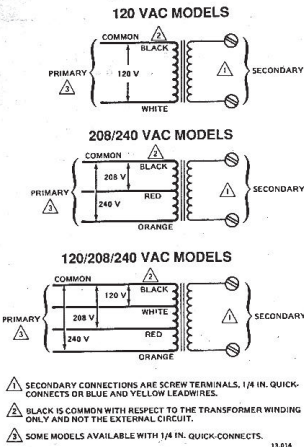

Fig. 1. Schematic for single and multitap transformers.
1. Make primary connections to line voltage power supply. On multitap model, make sure you are using correct leads or terminals for available power supply. See Fig. 1.